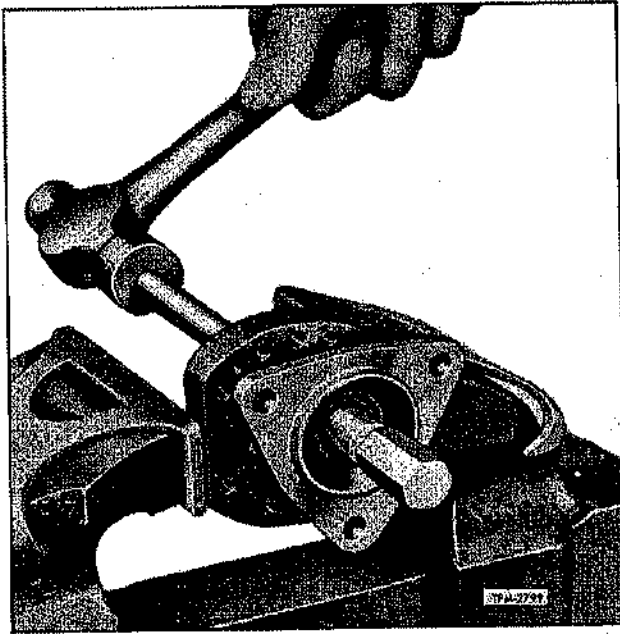

Figure 29—Removing Oil Seals from Pump Body
5. Using seal remover tool as shown in figure 29, screw threaded end of tool shaft into outer oil seal. Tap end of tool with hammer and remove seal. Repeat this operation to remove the inner seal.